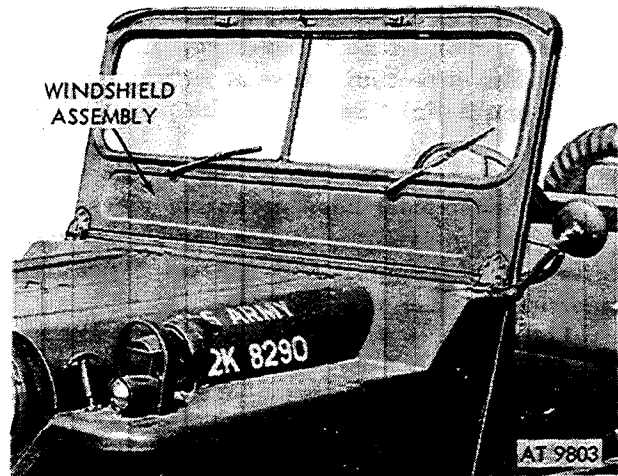
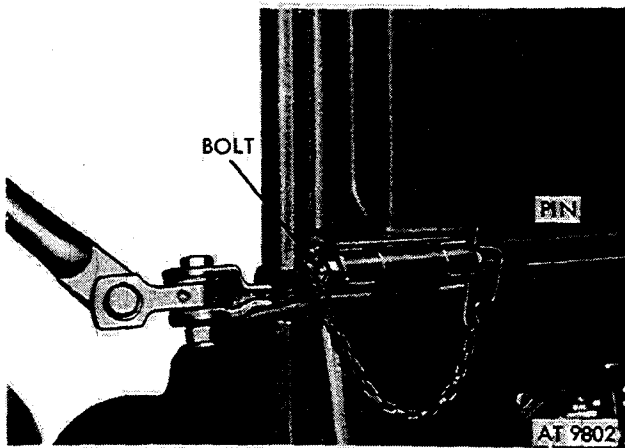

Figure 2-392. Remove windshield assembly.
Figure 2-391. Remove pin and bolt from each side of windshield.
(4) Remove pin and bolt from each side of windshield hinge (see fig. 2-391). Remove windshield assembly from vehicle (fig. 2-392).